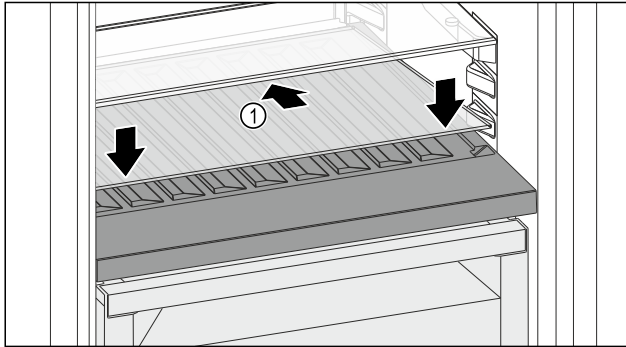

Fig. 210
- ▶ Place the glass shelf Fig. 210 (1) at an angle, sloping it downwards and backwards.
- ▶ Lower the glass shelf Fig. 210 (1) at the front.